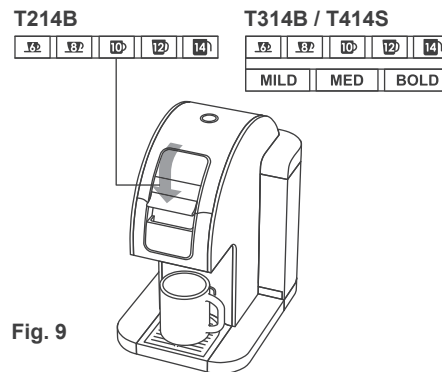

Fig. 9
3. Close the Cover by pressing down on the Cover Handle. (Fig. 9)
4. Press on the desired cup button. **T314B / T414S ONLY:** The default taste is BOLD. You may select a different taste preference by pressing on the MILD or MED Button. (Fig. 9)